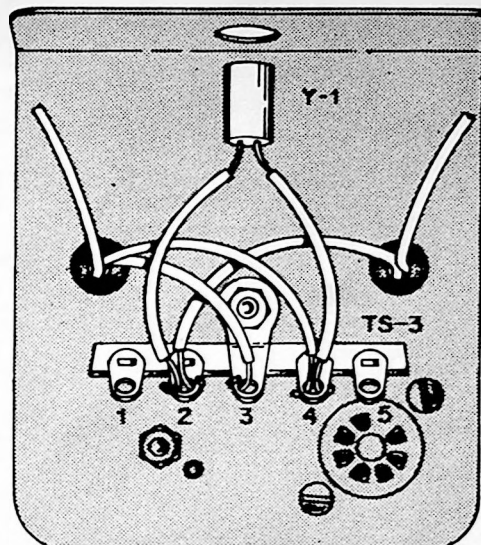

FIGURE 7. WIRING THE BOTTOM OF THE SUB-CHASSIS
- Turn the sub-chassis over so that the large side lies flat on the table, as in Figure 7. Mount TS-3, a 5-terminal strip.
SEE FIGURE 7.